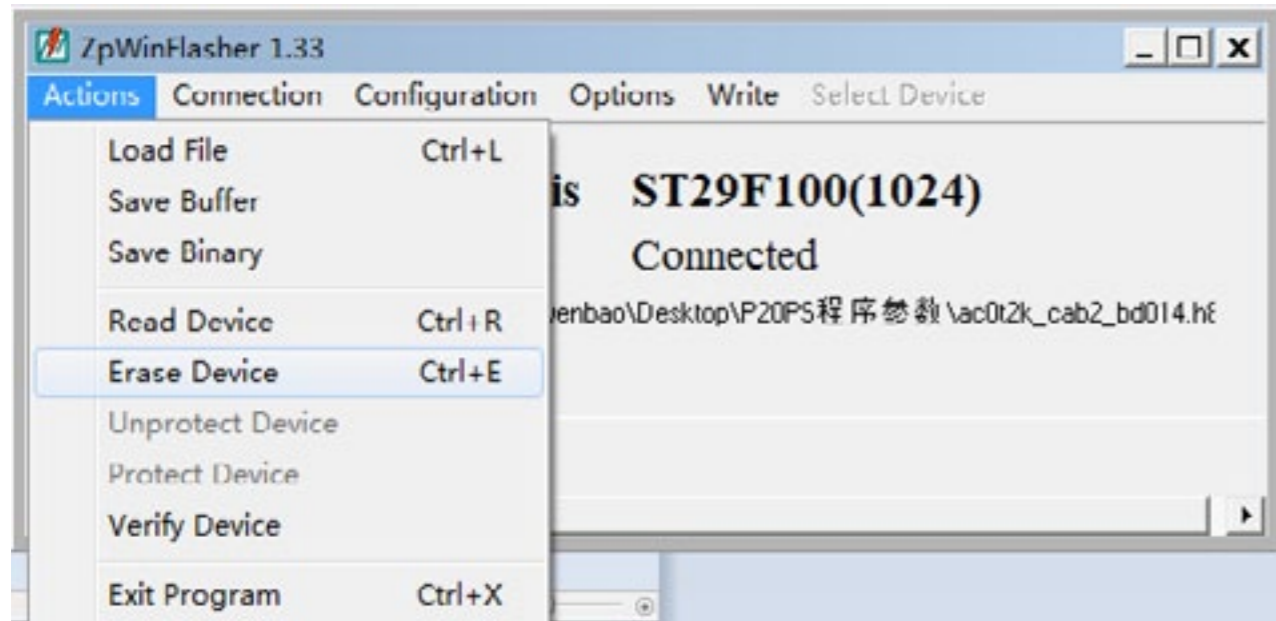

Fig.1.11
5. Erase the previous program and click "Actions"→"Erase Decide", as shown in Fig.1.11.